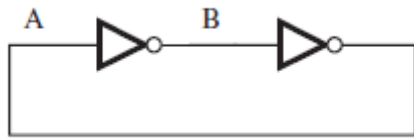

Fig.1: Simple Memory Element
1. Realize the simple memory element in **Fig.1** which consists of two **NOT gates** using your **SSI Library**.